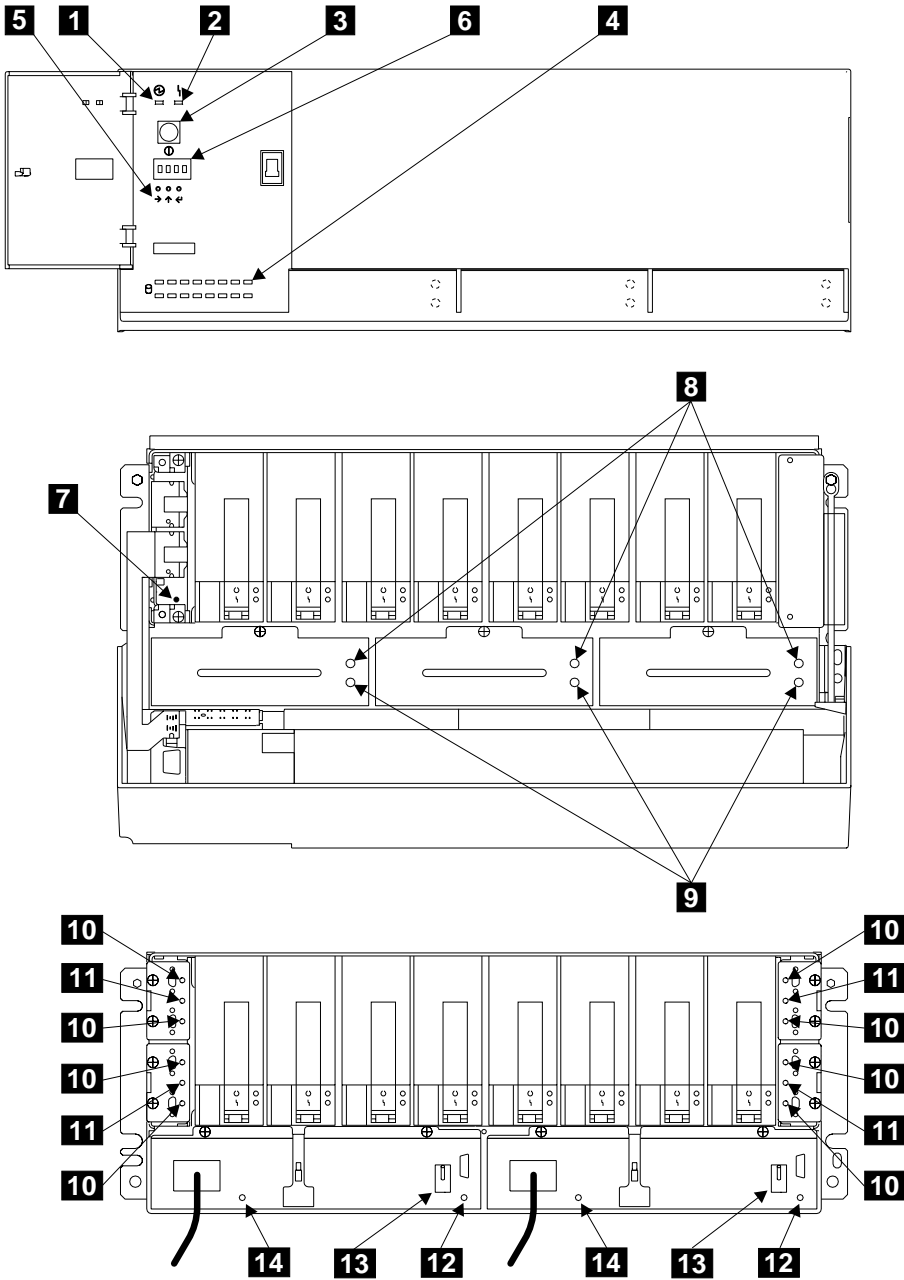
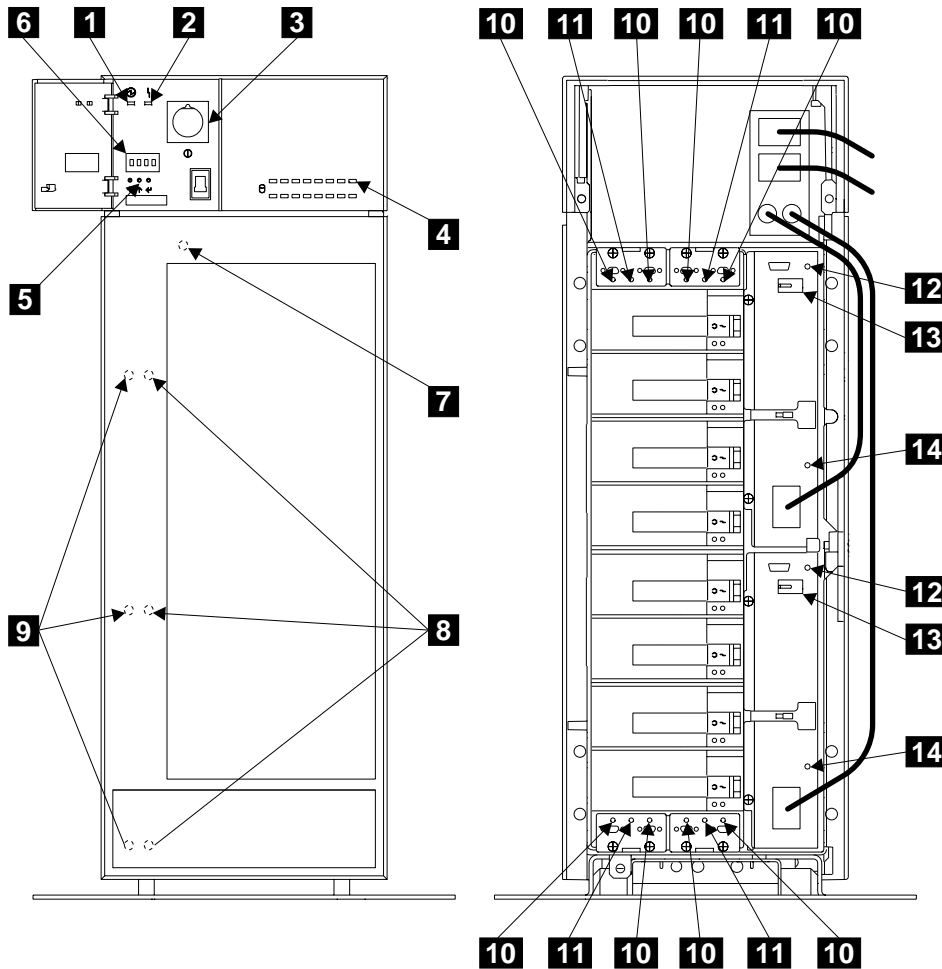

Figure 3. Lights and Controls of Model D40
Figure 4. Lights and Controls of Model T40
Figure 3 shows the lights and controls of Model D40; Figure 4 shows the lights and controls of Model T40.
To identify the lights and ID display that are described here, see Figures 3 and 4.
*To identify the lights that are described here, see Figures 3 and 4.*
*To identify the light that is described here, see Figures 3 and 4.*
*To identify the lights and controls that are described here, see Figures 3 and 4.*